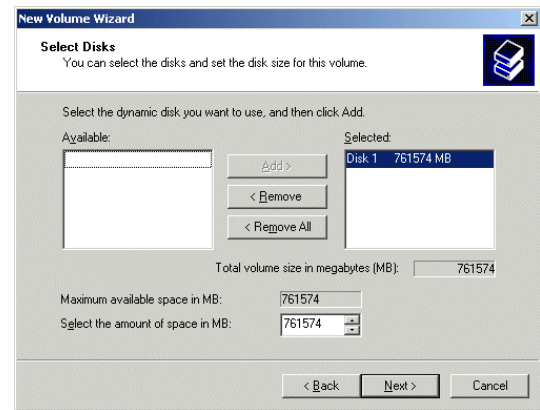

Figure 3-30
- 25) Click the **Next** button to be presented with the **Select Disk** screen. Ensure that the **Disk 1** item is selected and appears in the **Selected** column on the right-hand side of the dialog as shown in Figure 3-30.